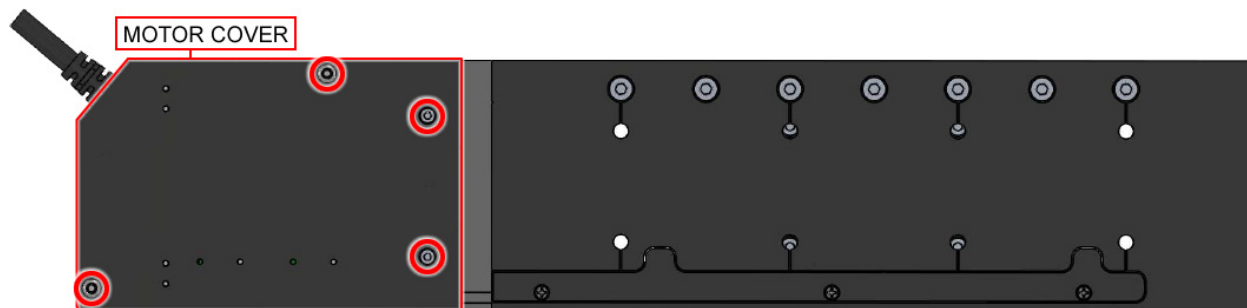

Figure 4-3: Motor Cover Screw Location
8. Re-install the motor cover (refer to Figure 4-3) ensuring that no wires are pinched or in the way. Do not over-tighten the screws that secure the motor cover because the cover is made of thin material and could become damaged.